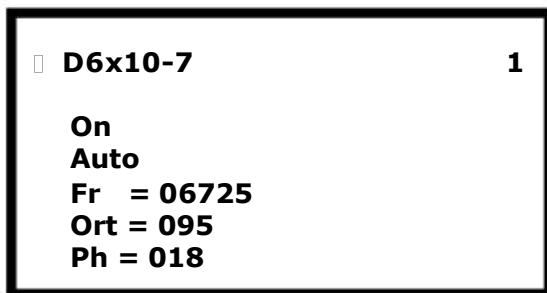

Fig. 29
- ▢ **EDITOR** – Accesses the coil editor parameters. To access the editor press + button. The following options will appear (a Fig. 29) :